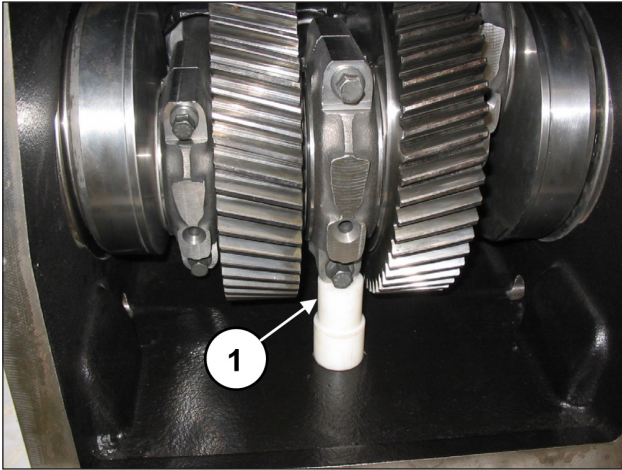

Fig. 85
Insert a shim under the shank of the central connecting rod, to stop the rotation of the bend shaft (pos. ①, Fig. 85).